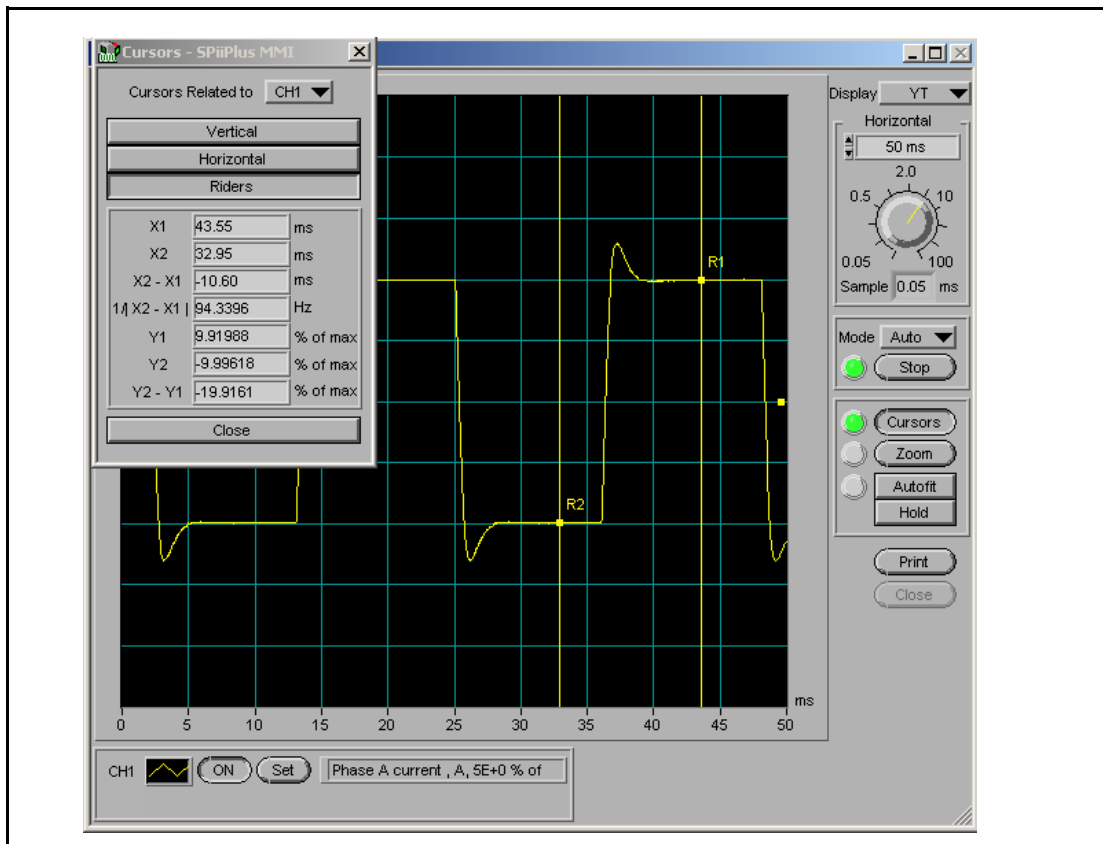

Figure 23 Typical Current Loop Adjustment Results
9. Continue steps 7 and 8 till the motor response is satisfactory. Typical current loop adjustment results are shown in **Figure 23**.